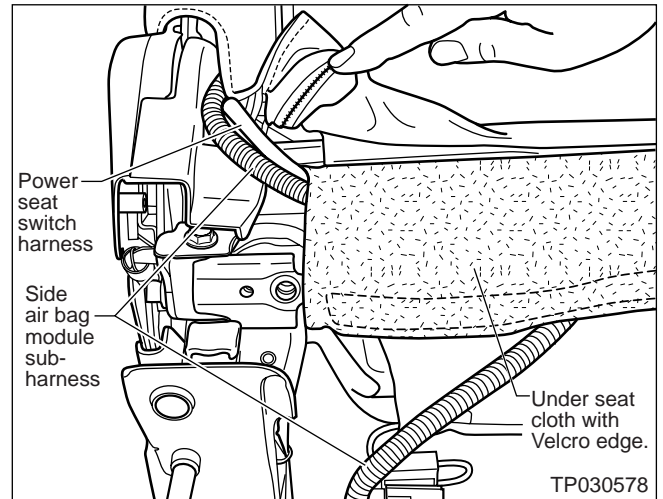

Figure 20
22. Make sure the harnesses are routed as shown in Figure 20.